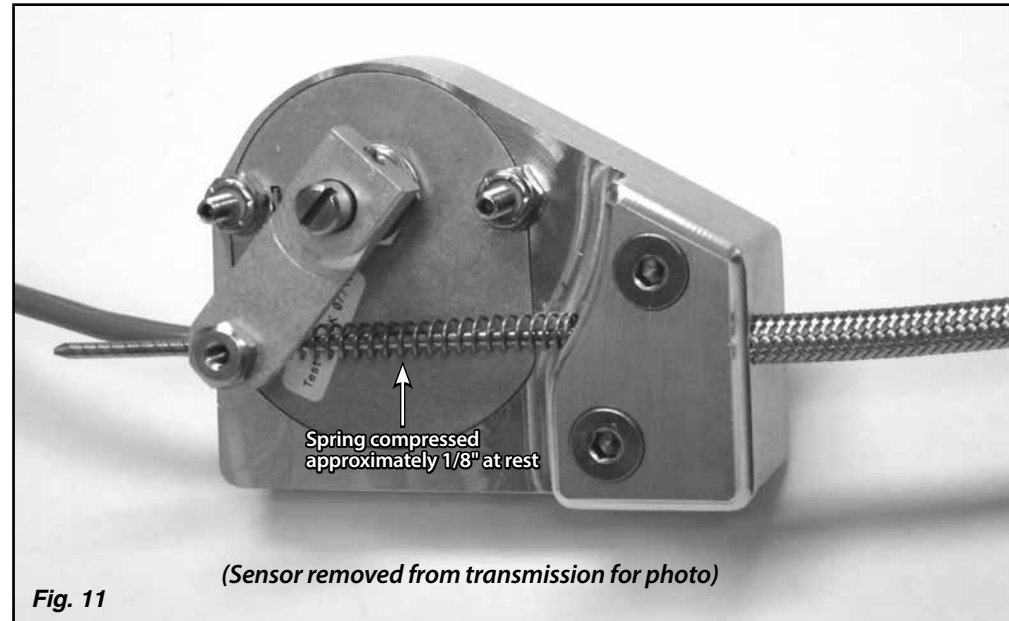

Fig. 11
Step 12: Make sure the transmission is in Park. **Push the sensor arm up against the spring, so that the spring is compressed approximately 1/8" at rest in Park. Fig. 11** Tighten the set screw in the index cable stop on the sensor arm using a 1/16" Allen wrench. Trim the excess inner wire, leaving about 1" protruding.